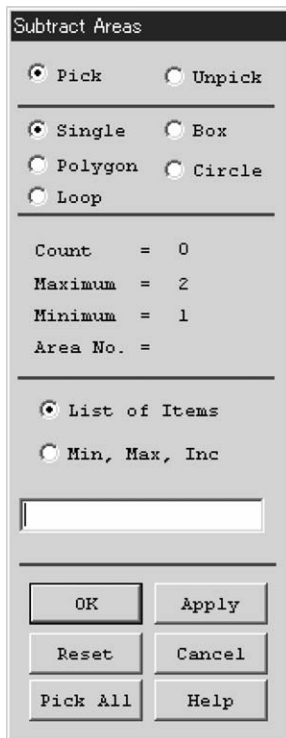
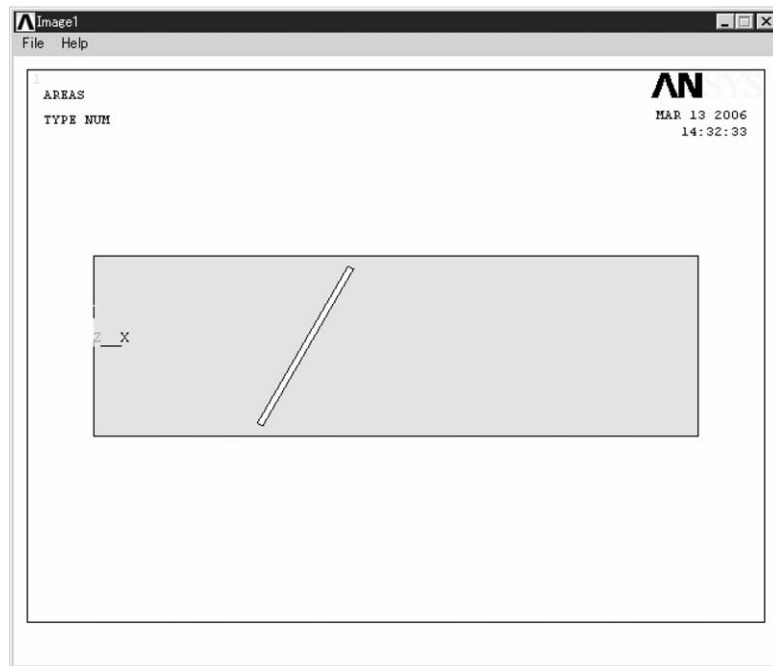

Figure 5.46 Window of Subtract Areas.
Figure 5.47 ANSYS Graphics window.
- (1) The window **Subtract Areas** opens (Figure 5.46).
- (2) Click the channel area displayed on **ANSYS Graphics** window and **OK** button in Figure 5.46. Then click the valve area and **OK** button in Figure 5.46. The drawing of the channel appears as shown in Figure 5.47.